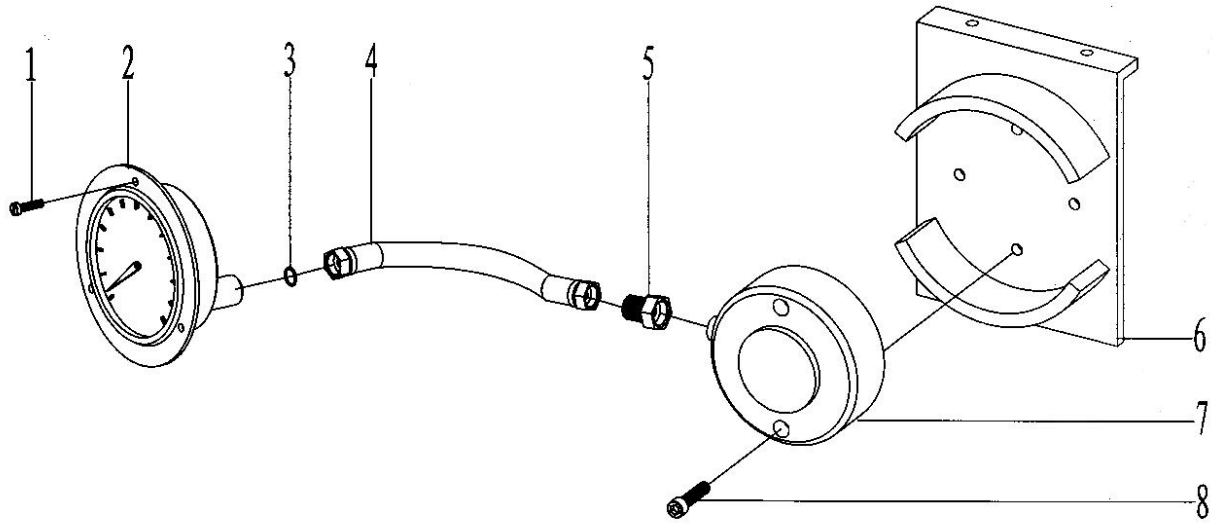

Fig .7-25
25. Torque testing assembly (Fig7-25, Table25)